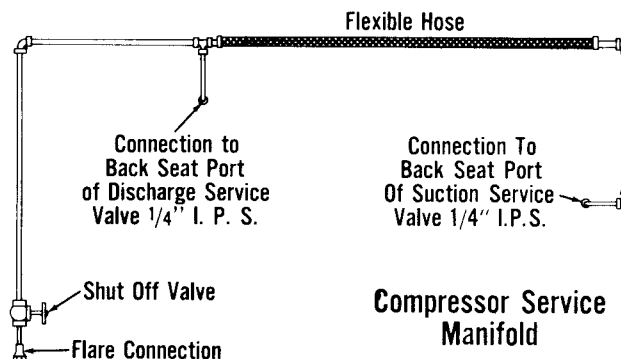

FIGURE 2
5. For testing, evacuating and charging, it is recommended that a compressor service manifold be made up as illustrated in Figure 2.